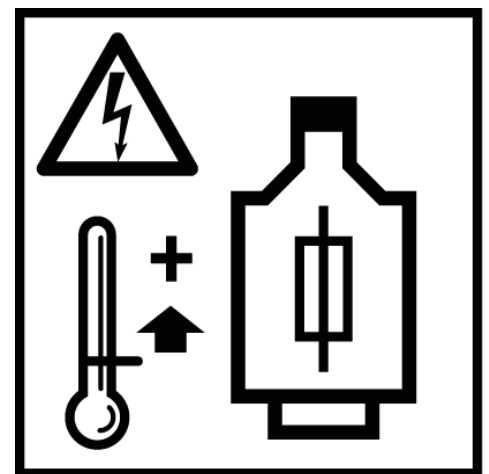

Fig.: 12
- 3 Allow for a motor overload protection in the switchbox (fig. 12)